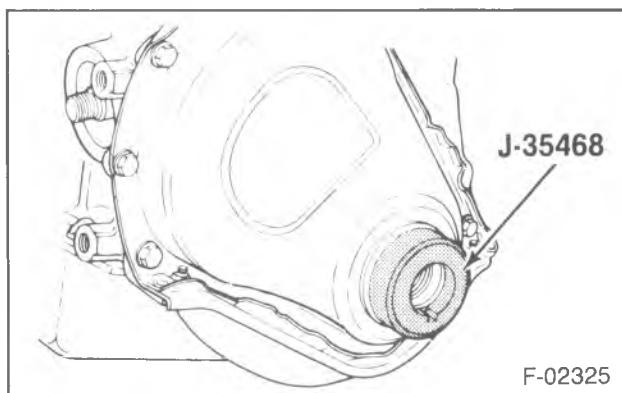

Figure 52—Front Cover Centering Tool
- Apply engine oil to the lips of the seal (158).
1. J-35468 to the seal (158). The tool is necessary to properly "center" the front seal on the crankshaft. If the seal is not centered, it may be damaged when the vibration damper is installed, or it may fail prematurely.
2. Gasket (166) to the block (115).
3. Timing gear cover (157), with the tool, to the block (115) (figure 52).
4. Bolts (164).